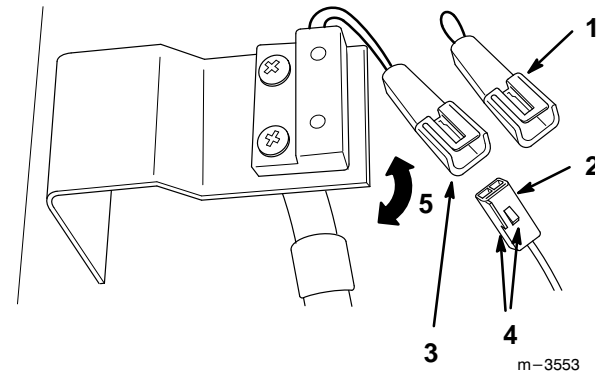

Figure 18
- Remove jumper wire from main wire harness terminal and install interlock switch connector. Align connector tab and push together firmly so latch locks (Fig. 18).